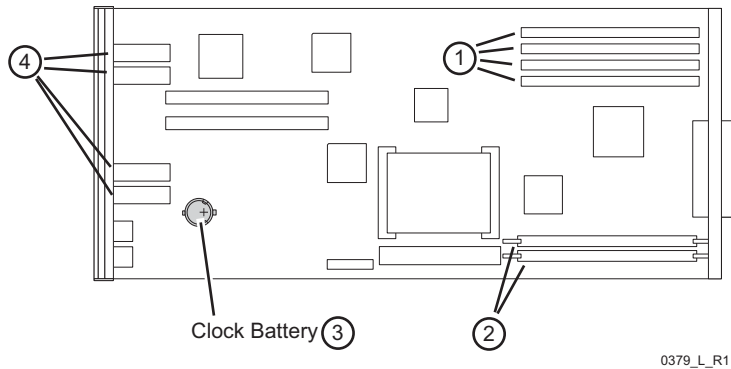

Figure 16-2. Controller Node Clock Battery Under the Node Disk
- 13 Remove the clock battery by placing your finger on the edge of the battery closest to the node enclosure and pushing the battery toward the PCI cards, while lifting slightly with your finger (Figure 16-2).